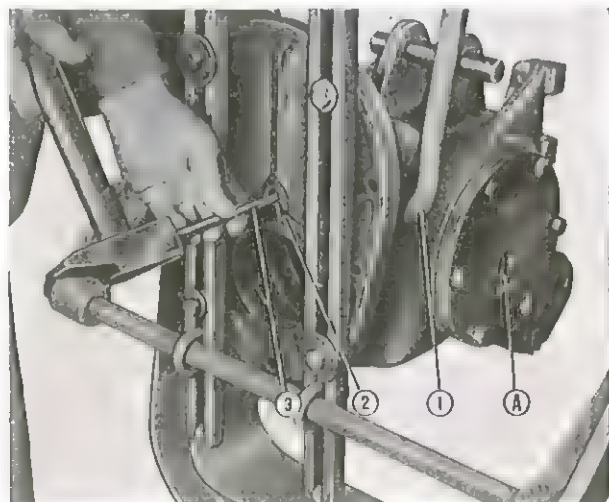

Fig. 91. - Power take-off casing.
- The left side cover of the rear P.T.-O. housing has a threaded plug hole (A, Fig. 91) which serves for lubricating oil level inspection. Be sure at assembly to fit the side cover to the housing according to the indications stamped on the cover (HAUT = upper, and BAS = lower), which determine the correct position of the plug hole.
- The removal and refitting operations of the spring dowel pin on the P.T.-O. control hand lever and engagement fork are to be performed as shown on Fig. 91.